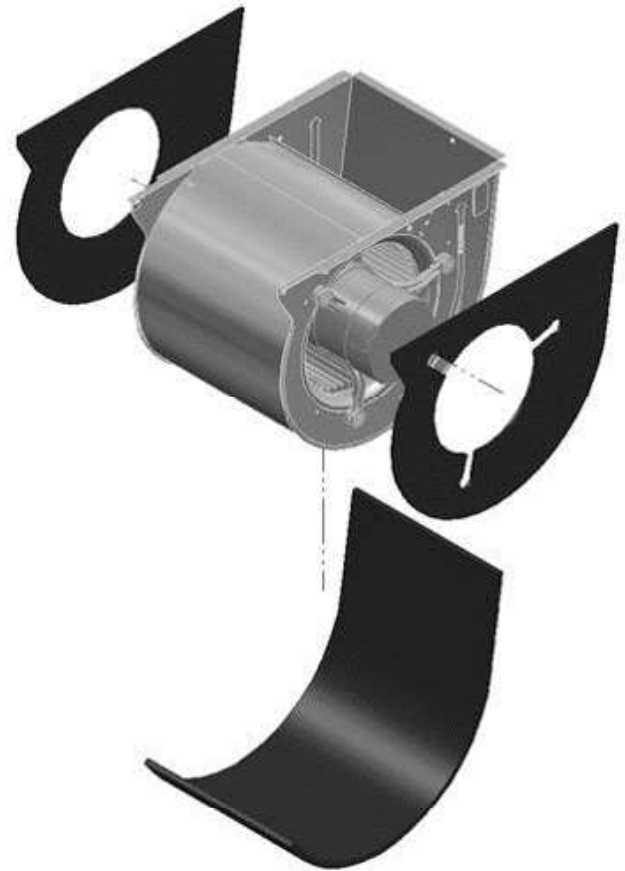

Figure 3 - Blower Housing Insulation
- Remove the paper backing from the insulation adhesive and install the three blower insulation pieces as shown in Figure 3. Firmly press the insulation along the surface of the blower housing.